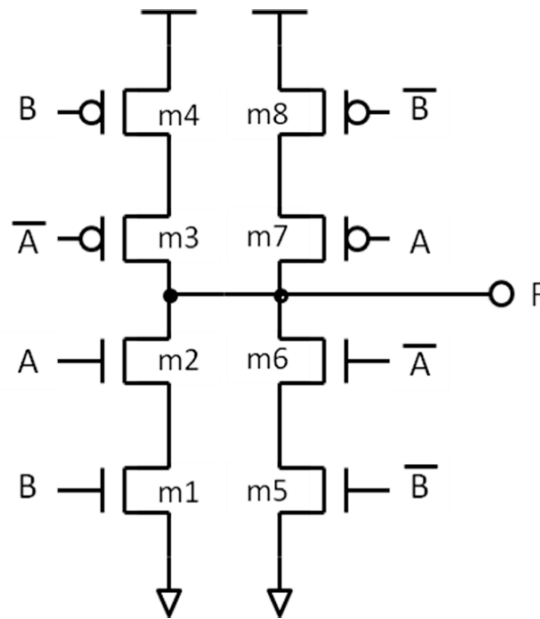

Figure 1 Complex gate.
- (1) Draw the true table and determine the logic function of the complex gate shown in Fig. 1. (1 pt)